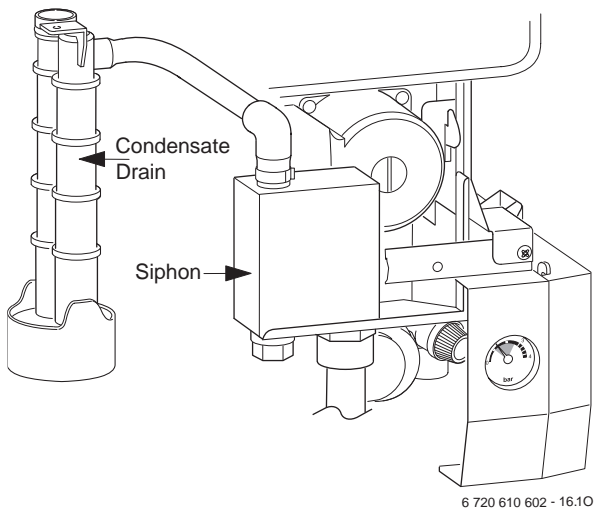

Fig. 51
- Unscrew and remove the siphon by releasing the jubilee clip. Refer to fig. 51.